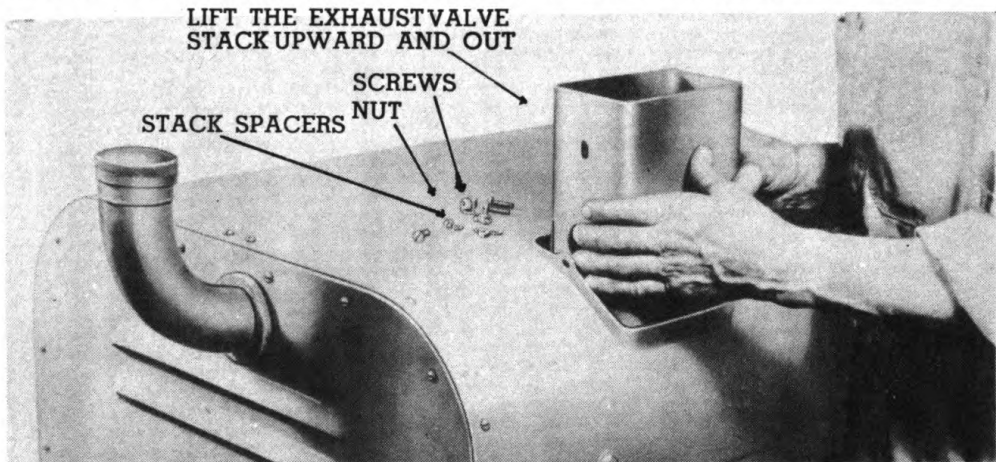

Figure 58—Lifting Exhaust Stack from Position
a. If the occasion requires that you effect a disassembly of the hood and frame of this unit the first step is to remove the exhaust stack. This is accomplished by removing the stack to hood spacer, screws and nuts and lifting the stack upward. (Figure 58.) Then